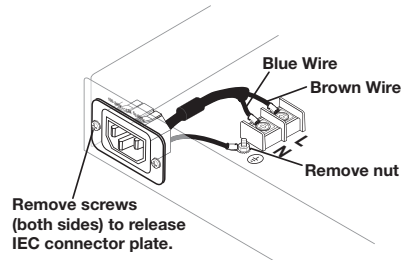

Figure 6. Removing the IEC Connector
3. Remove the 2 screws holding the hot (Line) and neutral wires from the terminal block on the PCB (see figure 6).